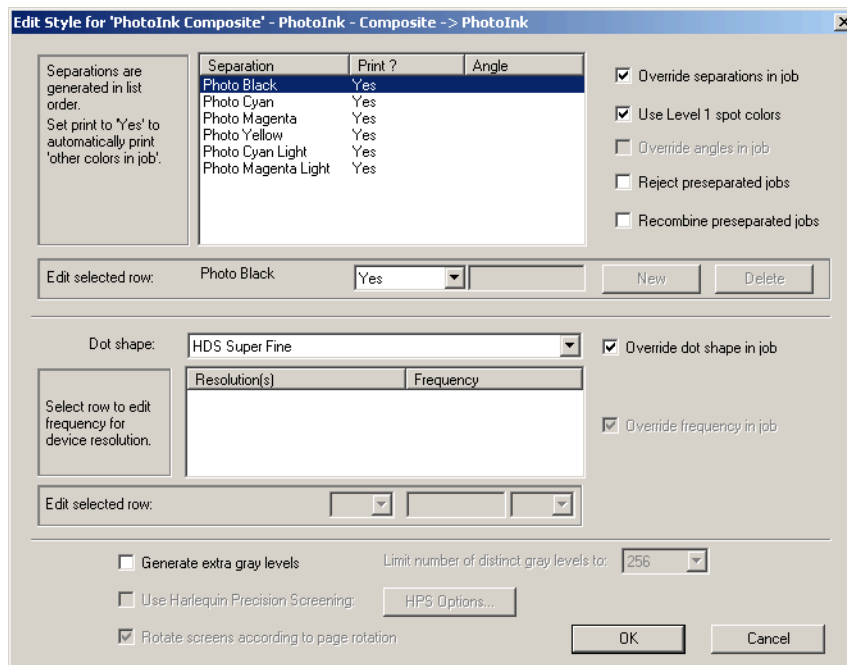

Figure 11 Edit Style dialog
3. From the Style Name list, select the style you want to change, and choose Edit to open the Edit Style dialog, Figure 11.